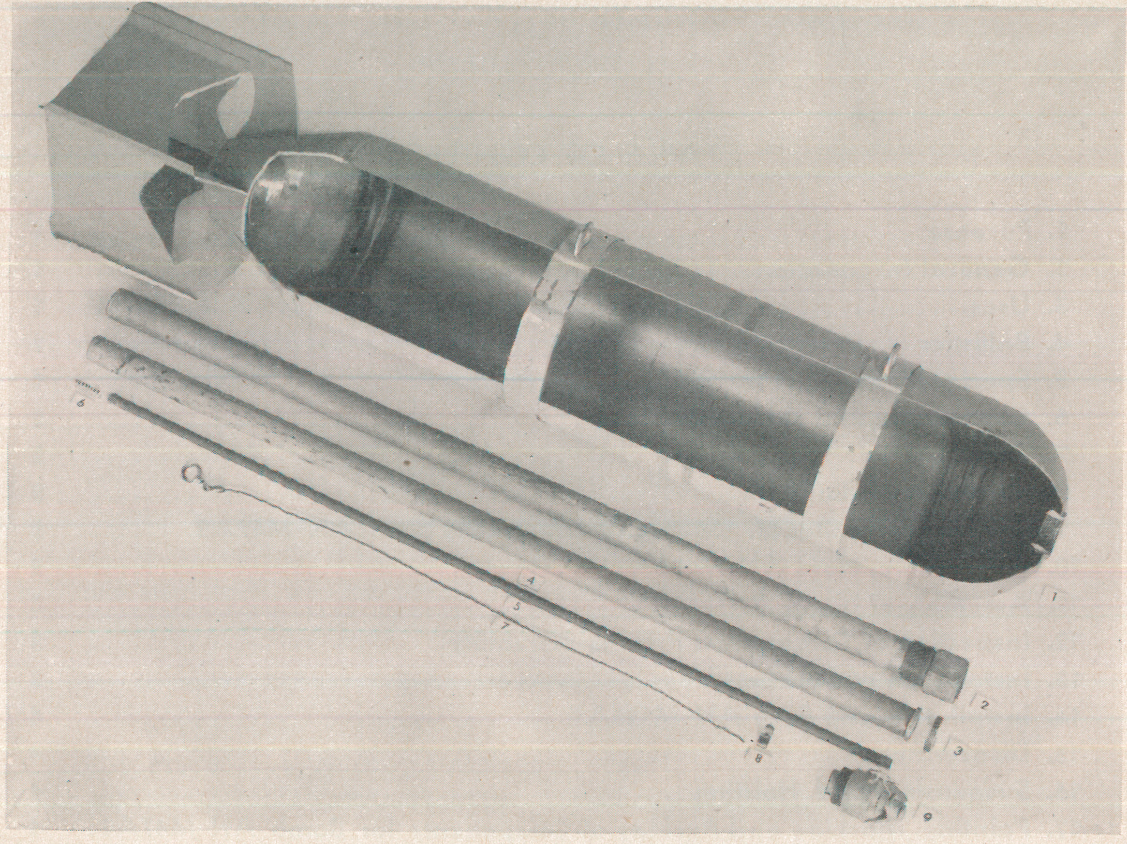

FIGURE 1.—Components of 100-pound Incendiary Bomb AN-M47A2 (all purpose).
1. Bomb, Incendiary, 100-pound AN-M47A2 Incendiary Oil-filled NP (or IM) (figure 1 piece 1)—with burster well (figure 1 piece 2) installed and burster well cavity plugged with a cork.
2. Igniter,* 100-pound, Incendiary Bomb AN-M9 (WP filled) or Igniter, 100-pound, Incendiary Bomb E2 Sodium-Filled (figure 1 piece 4) with spring (figure 1 piece 6) installed.
3. Burster,* 100-pound, Incendiary Bomb AN-M13 (figure 1 piece 5).
4. Ring, Retainer, for 100-pound Incendiary Bomb AN-M47A2 (figure 1 piece 3).
5. Arming Wire Assembly (figure 1 pieces 7 and 8).
6. Fuze, Bomb, Nose, AN-M126A1 (figure 1 piece 9).
The Incendiary Bomb Body AN-M47A2 is 46 inches long and 8 inches in diameter (see figure 1). The body is made of $\frac{1}{16}$ " lap-welded steel and is threaded at the nose to take an axial burster well which extends to the tail of the bomb body. A sheet steel box-type tail assembly is welded to the bomb body. With the burster well installed, the bomb empty weighs approximately twenty-six (26) pounds. Two suspension bands of sheet steel, each equipped with a suspension lug, circumscribe the bomb body. When filled and assembled with fuze, burster AN-M13 and Igniter AN-M9 ready for dropping, the bomb weighs approximately 70 pounds.
(b) Screw the retainer ring (figure 1, piece 3) into the fuze adapter to insure a tight fit of the igniter.
(c) Place the small spring (figure 1, piece 6) at the bottom of the inside of the igniter tube.